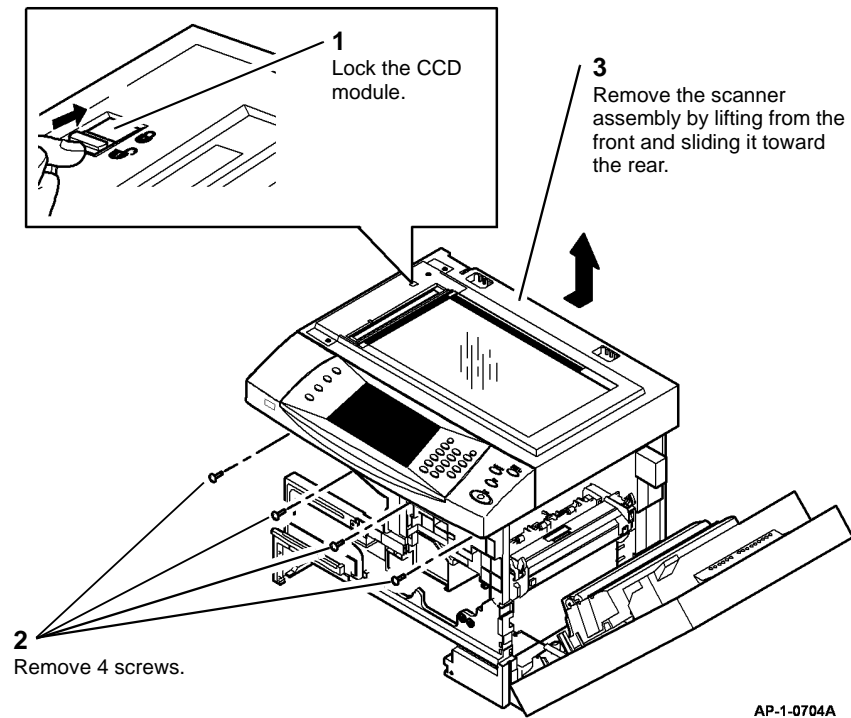

Figure 3 Removing the Scanner Assembly
11. Remove the Scanner Assembly (Figure 3).